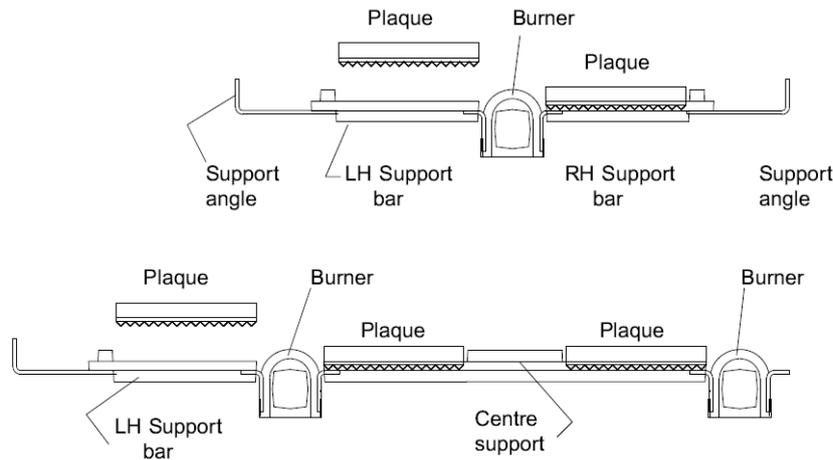

Figure 1
- a) When unit has been installed in desired location, the centre support bars can be positioned between the burner lugs. Similarly LH and RH plaque supports are located between burner lugs and support angle. See Figure 1 below.